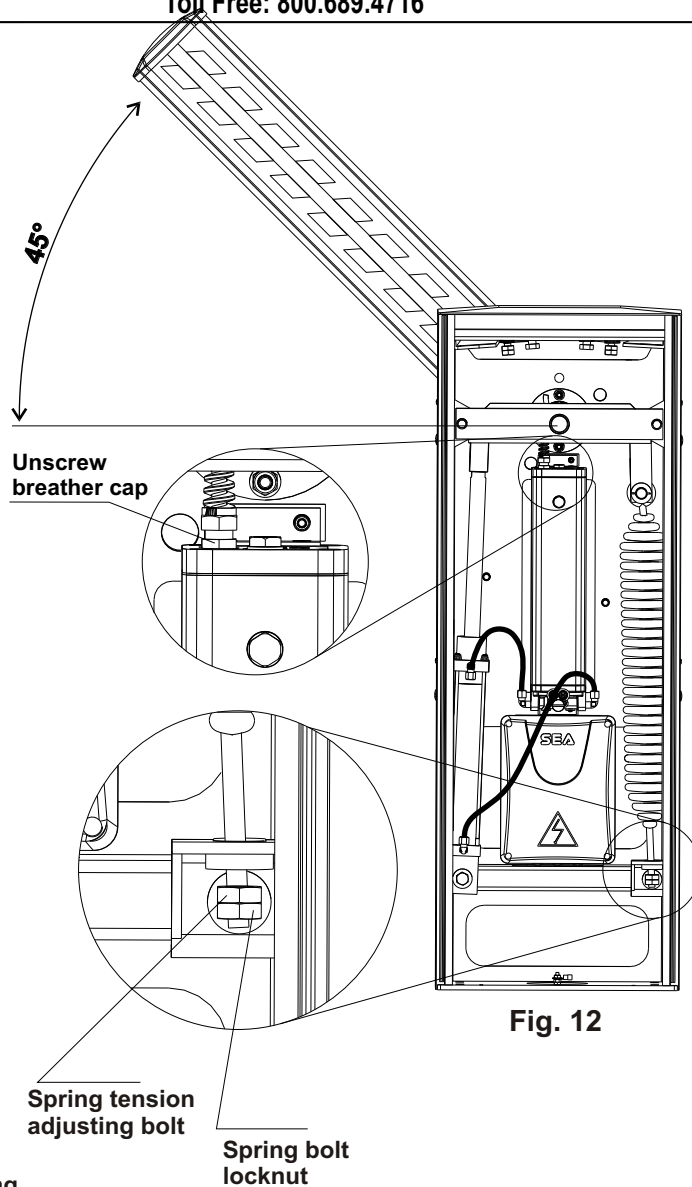

Fig. 12
- Place the beam at approx. 45° and execute the balancing with the nuts of Fig. 12.
- Tight or untight the spring adjusting bolt locknut so that the spring reaches a balance point with the beam at 45° (Fig. 12).